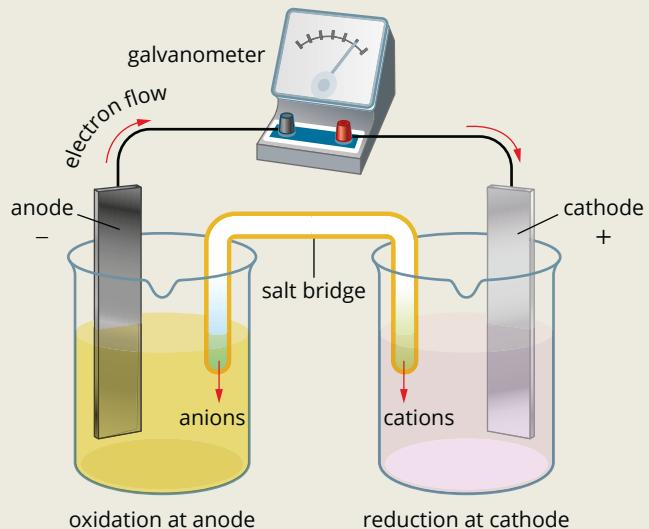

FIGURE 5.1.11 Key concepts about how a galvanic cell works.
- These key concepts about a galvanic cell are summarised in Figure 5.1.11.